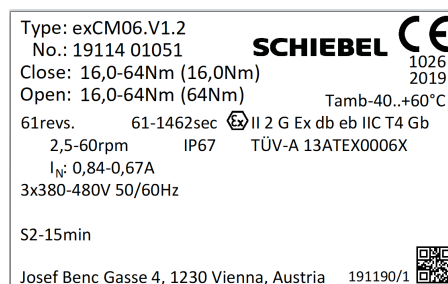

Figure 15: Type label of the actuator for operation in explosive atmosphere
**Actuators which are suitable for operation in explosive atmosphere (see EU Directive 94/9/EG and EN 60079-0 Standard) are separately designated by a special type label (Ex, TÜV Standard, Figure 15).**